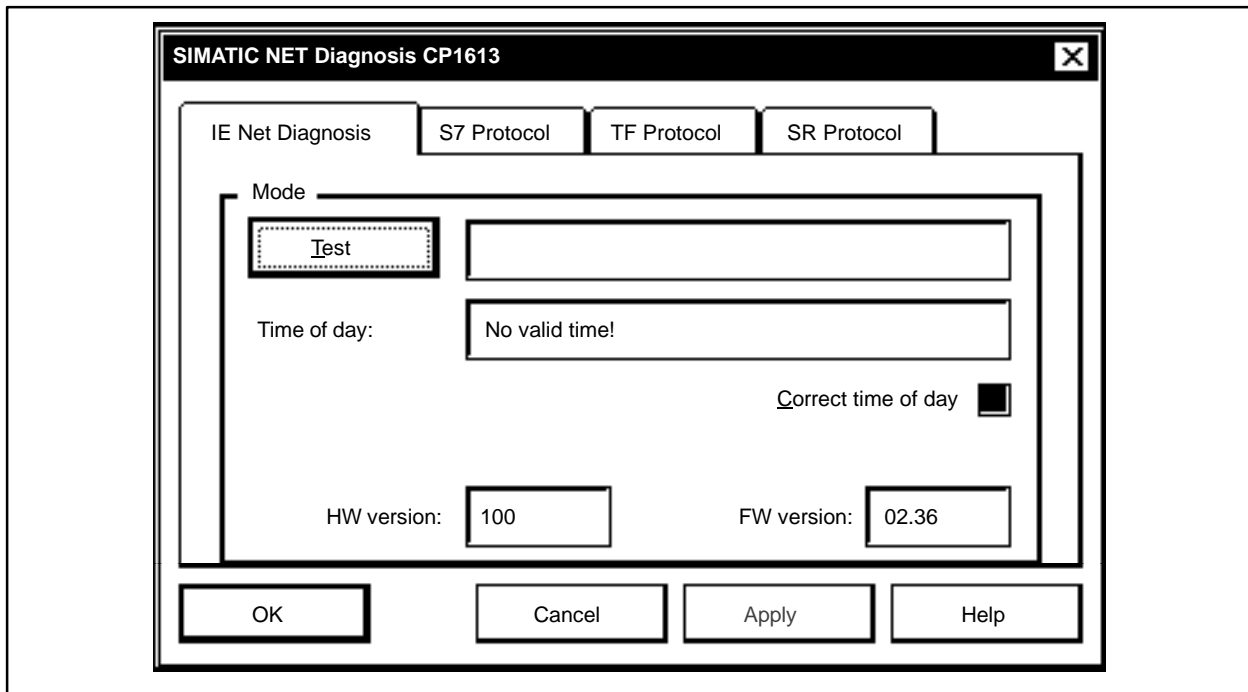

Figure B-11 Testing the CP1613 Card
2. Select the **IE Net Diagnosis** tab (Figure B-11).